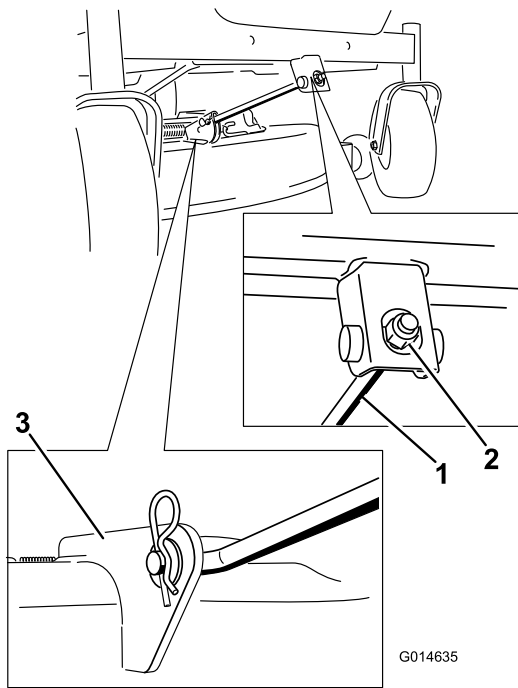

Figure 56
4. Remove the hairpin cotter from the front support rod and remove the rod from the deck bracket (Figure 56). Carefully lower the front of the mower deck to the ground.
- Attach the front support rod to the mower deck with the clevis pin and hairpin cotter (Figure 56).